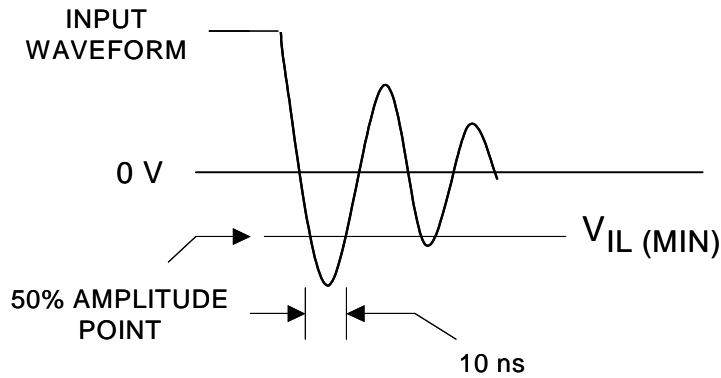

Figure 6: Input Signal Waveform
- 1.0 Volts for a duration of 10 ns measured at the 50% amplitude points for Input-only lines (see Figure 6 on page 27).
1. -1.0 Volts for a duration of 10 ns measured at the 50% amplitude points for Input-only lines (see Figure 6 on page 27).